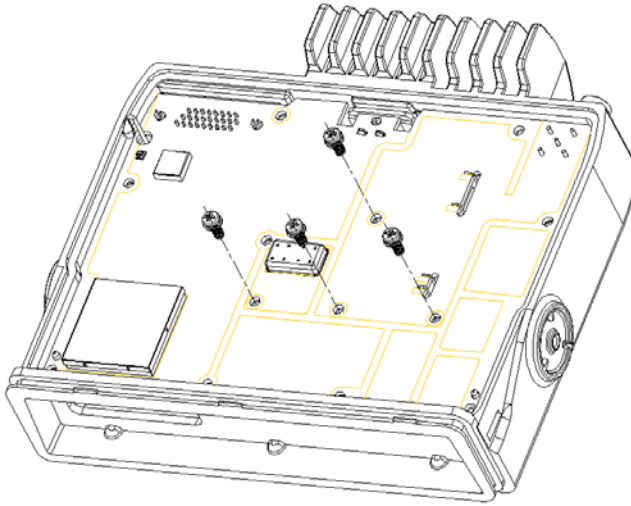

Figure 5.5
- (1) Remove RF plug of GPS antenna, unscrew 4 machine screws, unsold 4 points as per figure5.5.